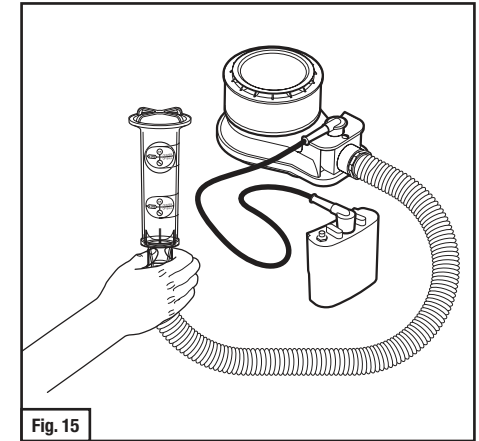

Fig. 15
- b. GVP-122, GVP-123 or H-115: Insert into the end of the breathing tube (Fig. 15) and hold vertically.